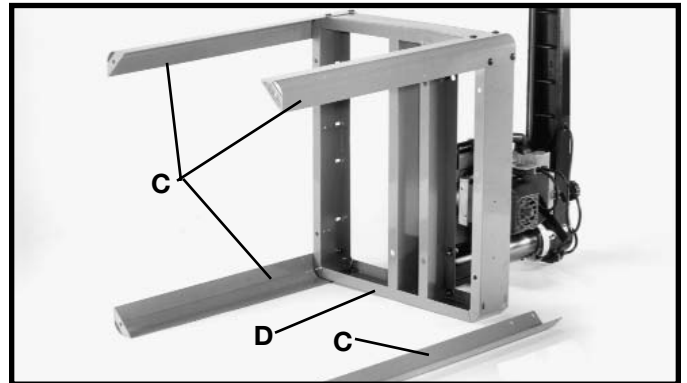

Fig. 9
3. Place Radial Arm Saw on its back and assemble legs (C) Fig. 9 (three of which are shown assembled) to each corner of saw base (D) using sixteen 5/16-18 x 5/8" carriage head screws, 5/16" flat washers, 5/16" external tooth lockwashers, and 5/16-18 hex nuts. Place flat washer on bolt. Insert bolt through holes then assemble lockwasher and nut. Hand tighten, hardware at this time but do not completely tighten.